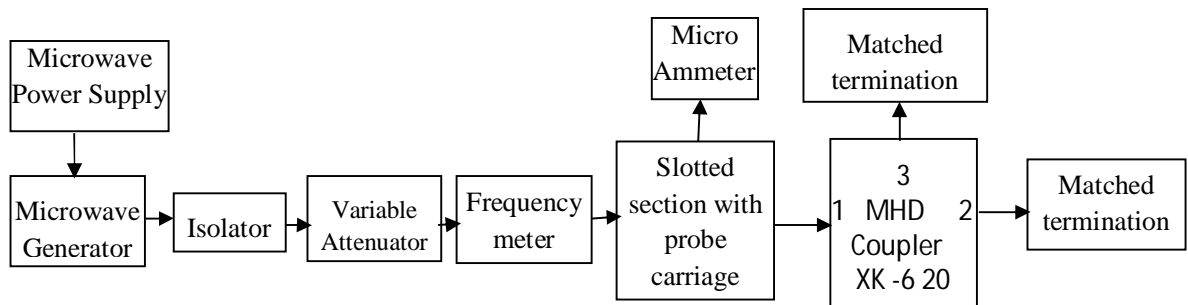

Fig .8.2 Experimental setup of study of MHD Coupler (Reflection Coefficients)
13. Assemble the set up as shown in figure 8.2 with port1 connected to slotted section. Observe the standing wave pattern on the slotted line and note down I_{max} and I_{min} . Calculate the